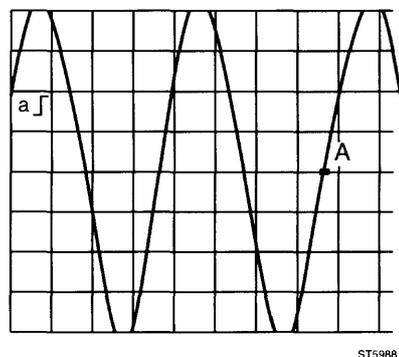

Figure 4.9 Trigger level indication on screen
- E Press the TRIGGER key. Use the select/adjust keys to verify that the trigger level range is more than 8 divisions (4 divisions up and 4 divisions down). The selected trigger level is shown on the display (reversed indication "◊ LEVEL"). Also the trigger level indication, marked with an A ] will shift, while shifting the trigger level. See figure 4.9.